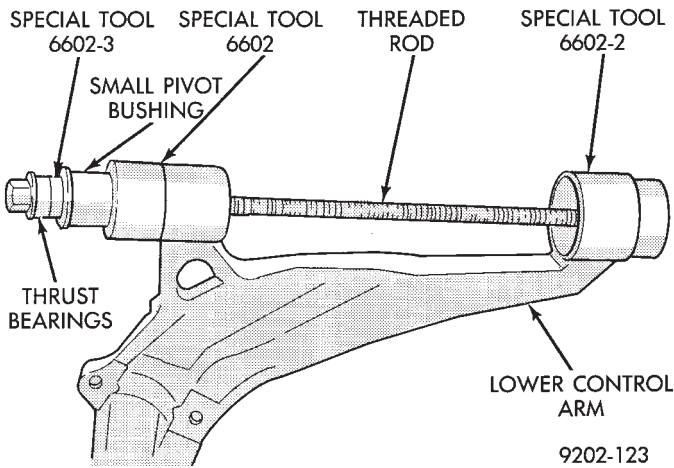

Fig. 8 Bushing And Tool Position For Installation In Control Arm
(3) Install the pieces assembled in step 2 through the small and large pivot bushing holes in the lower control arm. At the large pivot bushing hole in the lower control arm, assemble Cup, Special Tool 6602-2, thrust bearing, washer and nut (Fig. 8). Lubricate the installer cone and new bushing using Mopar®, Silicone Sray Lube or equivalent.